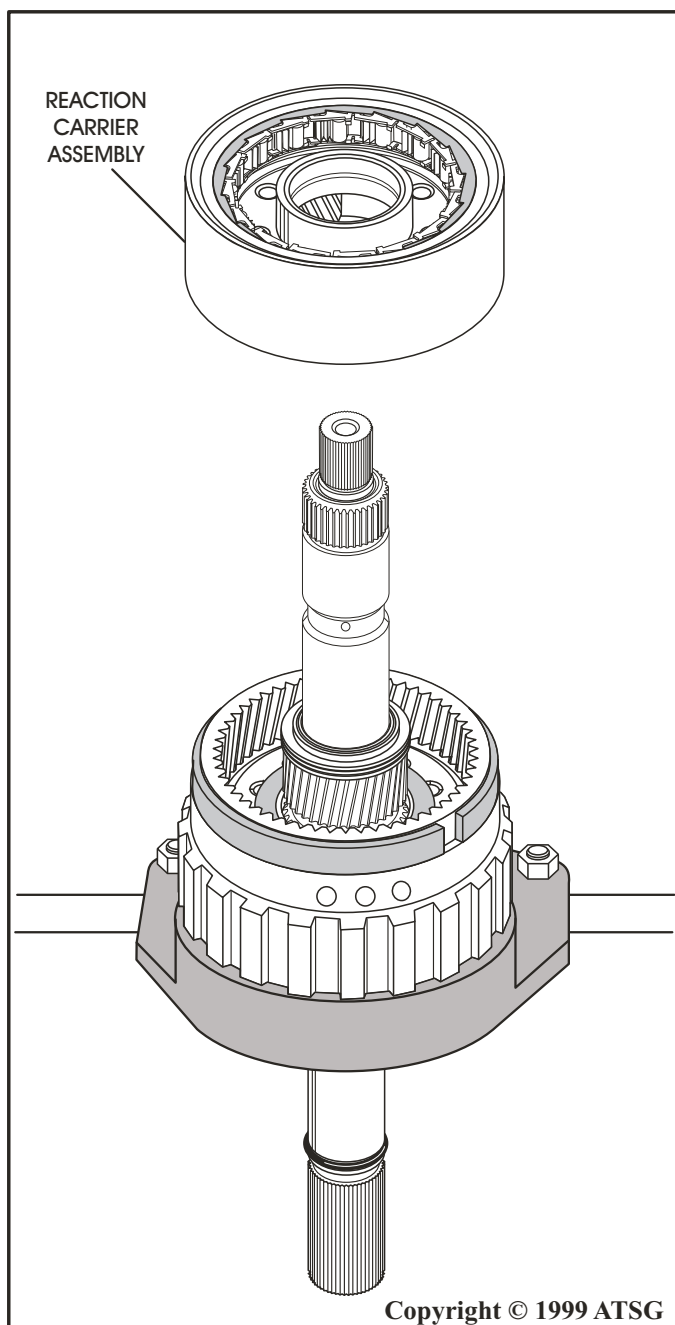

Figure 68
31. Install the completed reaction carrier into the sun gear and ring gear by rotating the sun gear shaft until it is fully seated (See Figure 68).